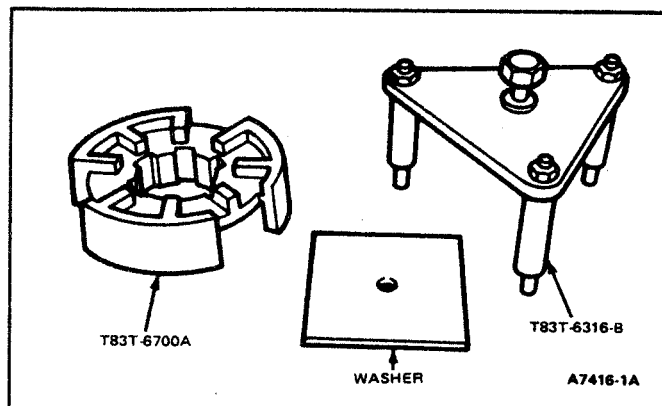

FIG. 33 Front Crank Seal Installation Tools—In Vehicle
**NOTE:** It may be necessary to rotate crankshaft to align the damper key with seal installing tool (Fig. 33).